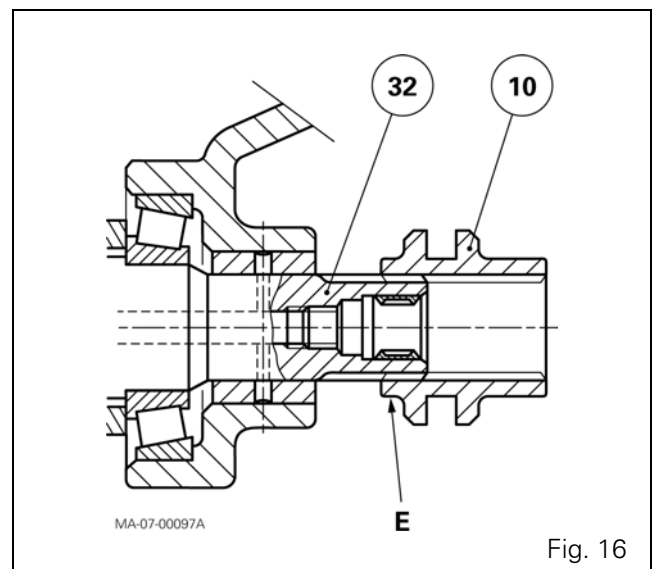

Fig. 16
NOTE: Turn the small shoulder E towards the shaft (32) (Fig. 16).